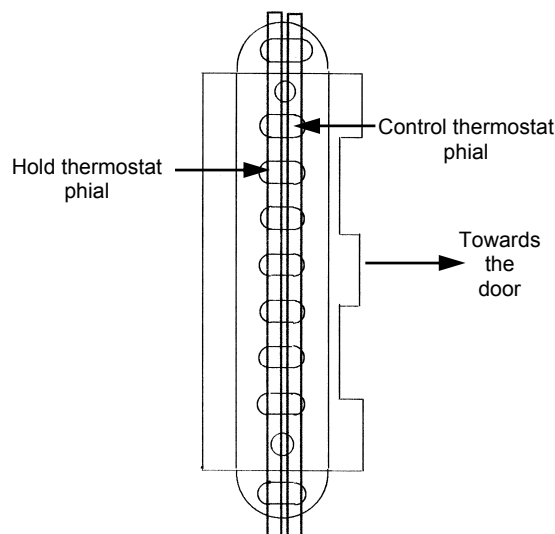

Figure 6.3.13
**NOTE:** Ensure that the thermostat phials are located in their correct positions. The main thermostat probe must be on the side closest to the door. The hold thermostat must be on the side closest to the fan (refer figure 6.3.13).